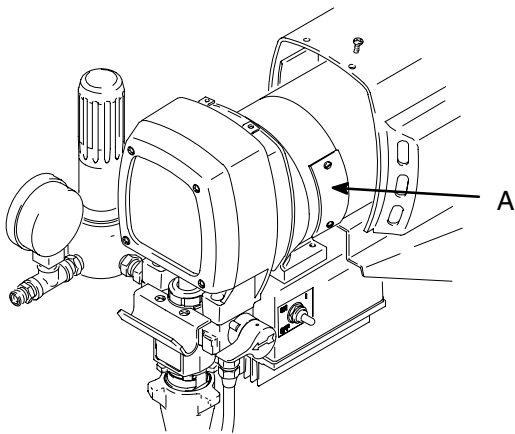

Fig. 5 9662A
2. Remove both inspection covers (A) and their gaskets. See Fig.5.